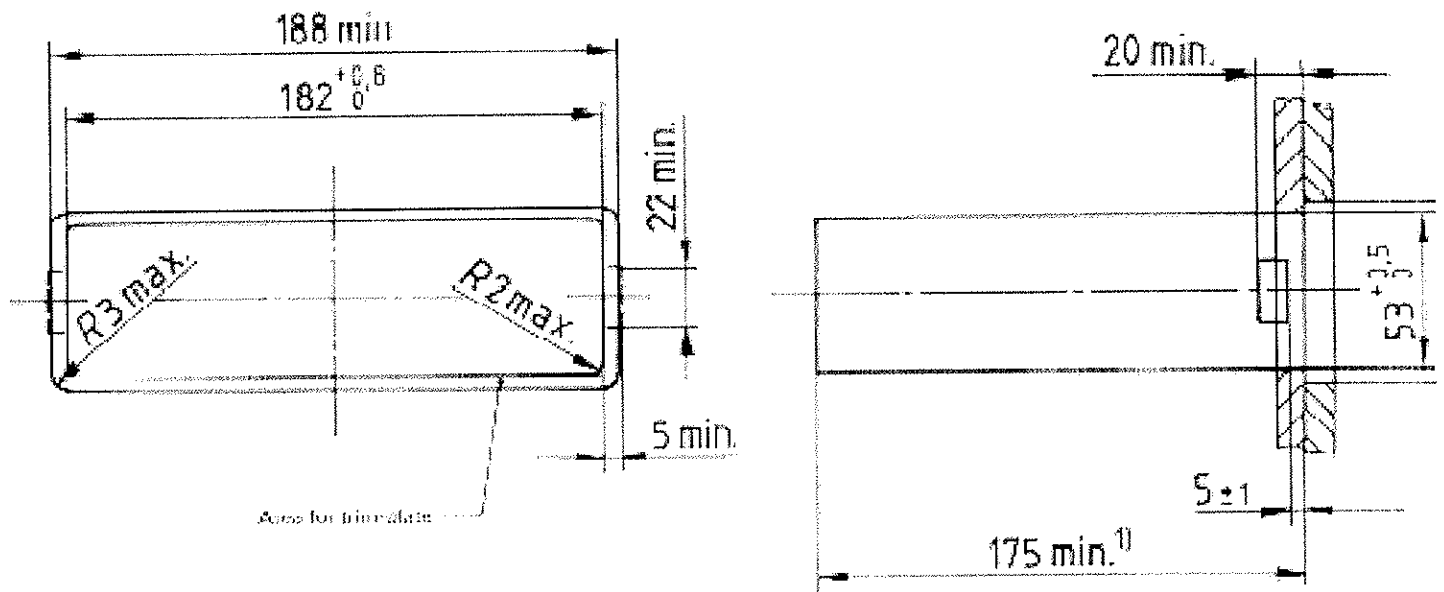

Figure 2 Lateral fixing installation
3.2 An alternative solution for lateral fixing space is shown in figure 2.